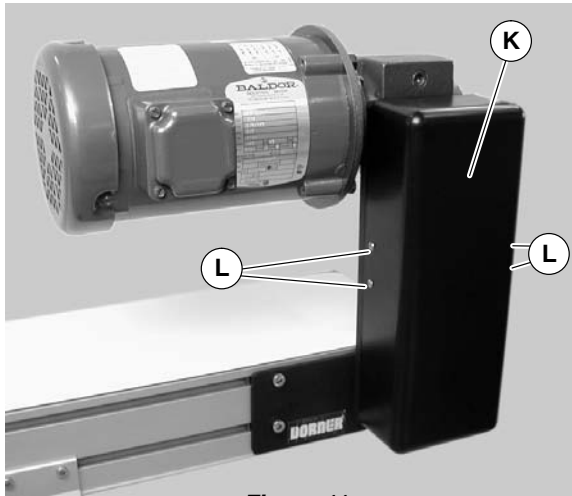

Figure 11
9. Install cover (K of Figure 11) with four (4) screws (L). Tighten screws to 35 in-lb (4 Nm).
1. Remove four (4) screws (L of Figure 11) and remove cover (K).
4. Install cover (K of Figure 11) with four (4) screws (L). Tighten screws to 35 in-lb (4 Nm).
6. Install cover (K of Figure 11) with four (4) screws (L). Tighten screws to 35 in-lb (4 Nm).